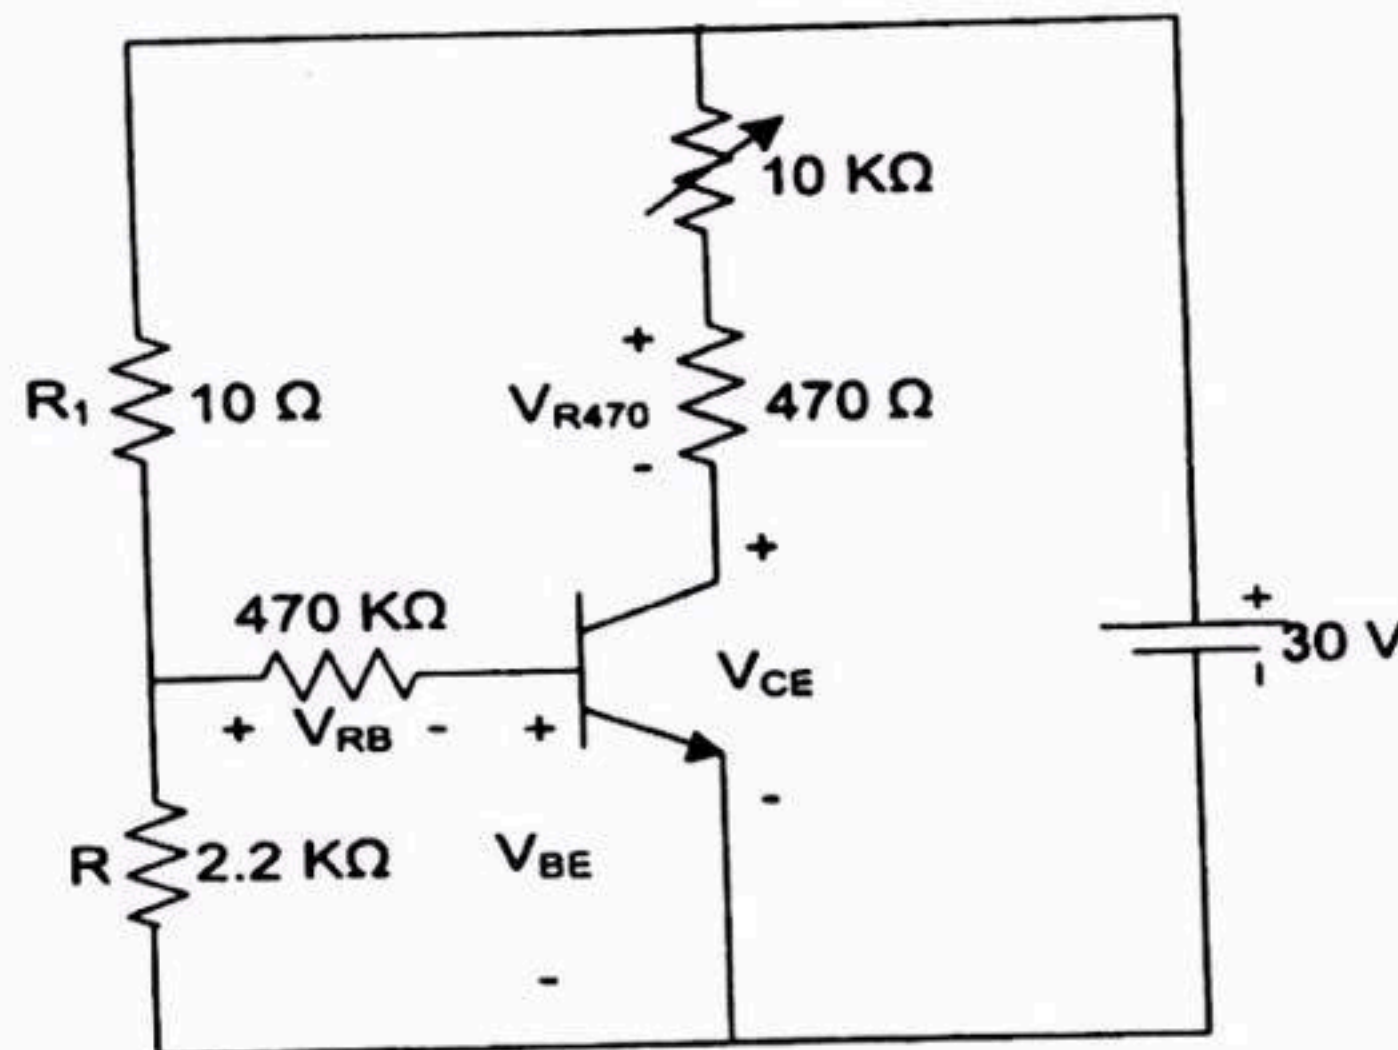

Figure 5.4: Experimental Circuit.
1. Connect the circuit as shown in the figure 5.4. Use 2.2 KΩ as R.